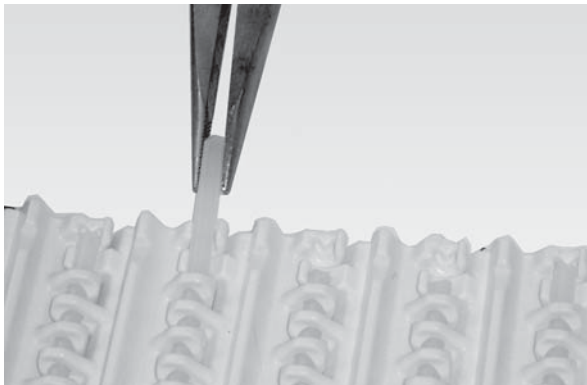

Figure 51
3. Remove the belt rod by gripping the end with a set of pliers and pulling (**Figure 51**).